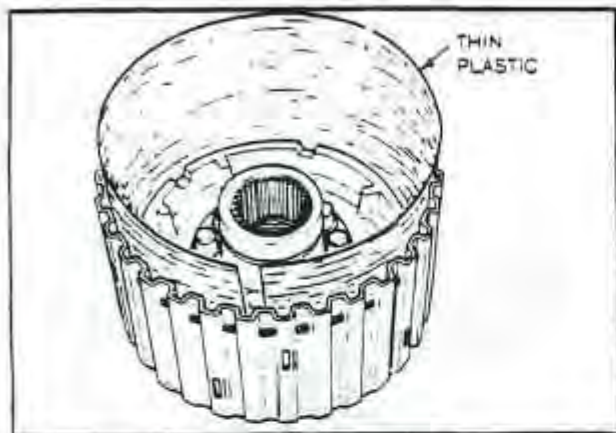

Fig. 58 C-1 PISTON INSTALLATION
3. Lubricate the inside of the clutch housing with transmission fluid and position a strip of thin plastic sheet in the clutch housing. Insert the piston into the housing and press into position by hand. *Fig. 58*